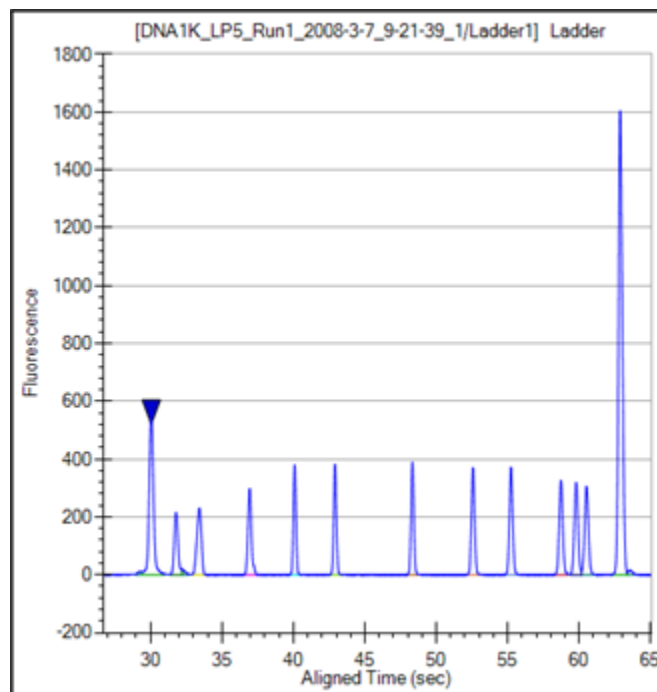

Figure 3. Ladder Graph - DNA
- 4 A sizing ladder (see Figure 3), which is a mixture of DNA fragments of different known sizes, is run first from the ladder vial. The concentrations and sizes of the individual base pairs in the ladder can be changed on the Analysis Tab.